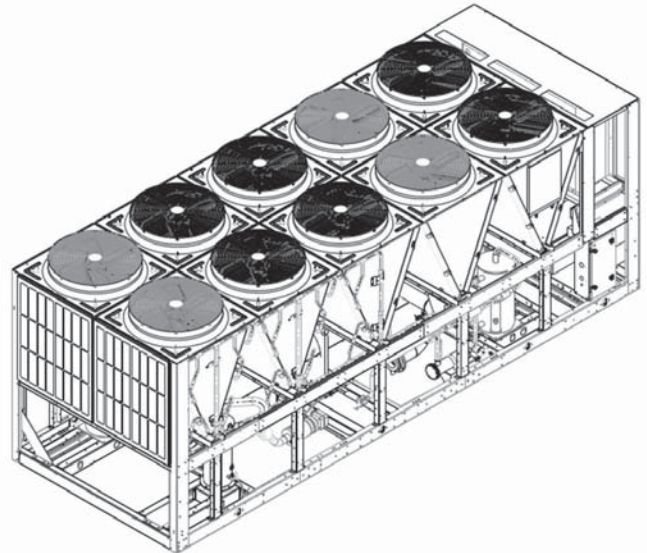

FIG. 6 – END HAIL GUARD
**END HAIL GUARD** – Louvred panels, painted the same colour as the unit, are installed on the rear of the unit (opposite end of the control panel) to protect the exposed condenser from flying debris or hail. See Figure 6.